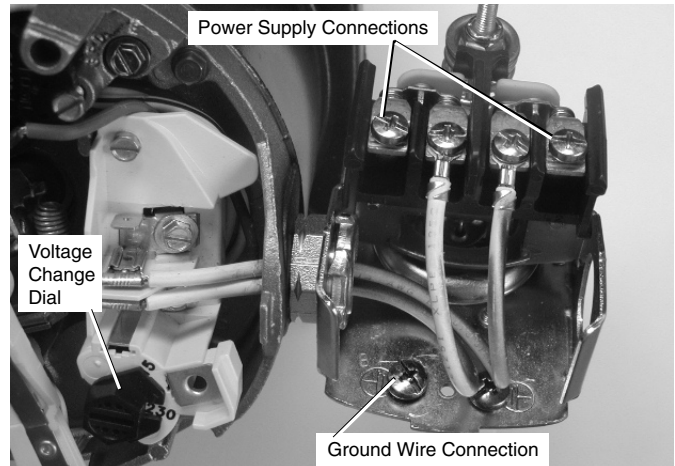

Figure 14: Voltage set to 230 volts, Dial Type
3. Attach the incoming power leads to the two outer screws on the pressure switch as shown in Figure 14.
4. Attach the ground wire to the grounding connections as shown in Figure 14.